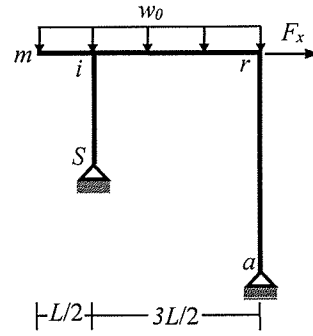

Fig. 3
- Fig. 3 shows frame *Samir* with beam *mir* carrying load $w_0 = (7 + 0.03R_0)$ k/ft, supported by columns *Si* and *ar*.